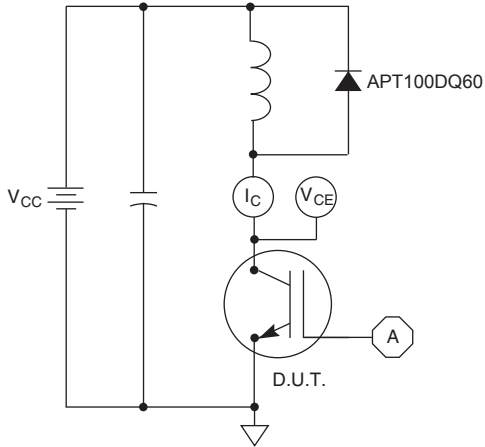

Figure 21, Inductive Switching Test Circuit
- ① Continuous current limited by case temperature.
- ② Repetitive Rating: Pulse width limited by maximum junction temperature.
- ③ For Combi devices,  $I_{ces}$  includes both IGBT and FRED leakages
- ④ See MIL-STD-750 Method 3471.
- ⑤  $E_{on1}$  is the clamped inductive turn-on energy of the IGBT only, without the effect of a commutating diode reverse recovery current adding to the IGBT turn-on loss. Tested in inductive switching test circuit shown in figure 21, but with a Silicon Carbide diode.
- ⑥  $E_{on2}$  is the clamped inductive turn-on energy that includes a commutating diode reverse recovery current in the IGBT turn-on switching loss. (See Figures 21, 22.)
- ⑦  $E_{off}$  is the clamped inductive turn-off energy measured in accordance with JEDEC standard JESD24-1. (See Figures 21, 23.)
- ⑧  $R_G$  is external gate resistance, not including  $R_{G(int)}$  nor gate driver impedance. (MIC4452)